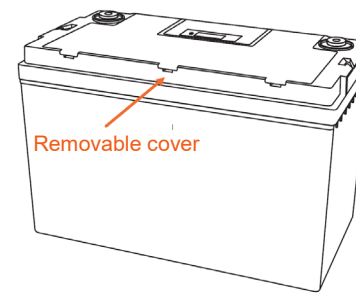

Figure 1.
Step 2. Insert a flat screwdriver into the side holes on the removable cover, lift and remove the cover (Figure 1).